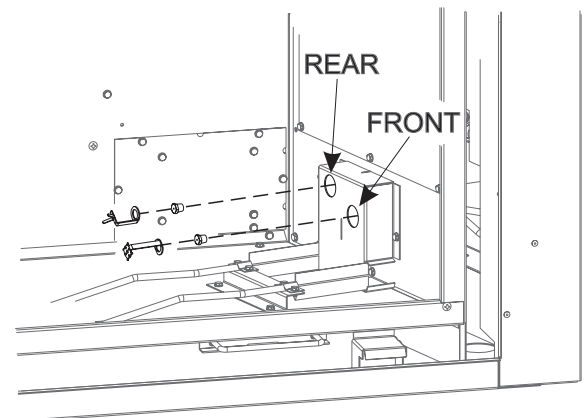

Figure 6
7. Locate the orifice marked "2.45." Use a 7/16 inch deep socket set to install orifice marked "2.45" onto rear orifice holder. Use needle-nose pliers, screw rear target onto rear orifice holder. See Figure 6.
8. Locate the orifice marked "2.25." Use a 7/16 inch deep socket set to install orifice marked "2.25" onto front orifice holder. Use needle-nose pliers to screw front target onto orifice holder. See Figure 6.